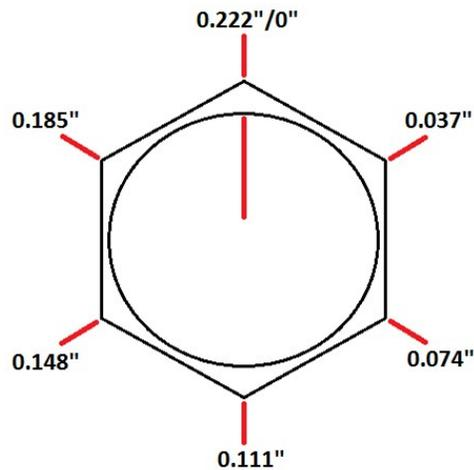

Figure 10-35: Example of Bolt Marking for Linear Travel Measurement
3. Mark the heads of the pusher bolts at the 12 o’clock position, and mark the plate at the desired adjustment intervals. Figure 10-35 shows an example. Values will differ based on bolt-specific threads.
2. Mark the heads of the pusher bolts at the 12 o'clock position, and mark the plate at the desired adjustment intervals. Figure 10-35 on page 74 shows an example. Values differ based on bolt-specific threads. See also Sections 10.3.8.2 and 10.3.8.3 for calculation guidelines.